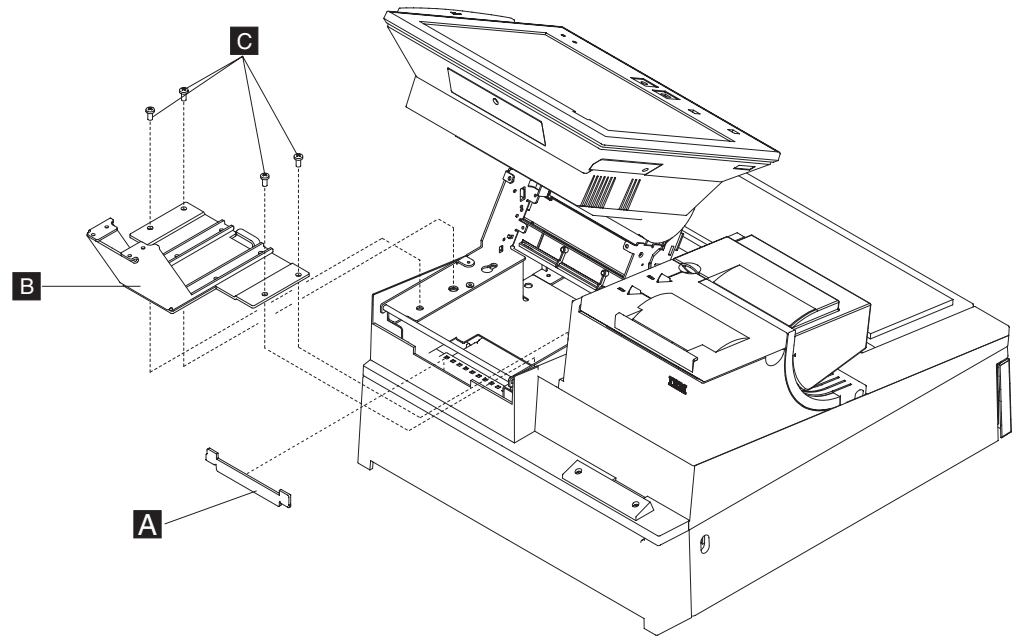

Figure 110. 4820 SurePoint Solution base plate removal from the keyboard integration tray
6. Remove the 4820 base plate **B** from the SurePOS 500/600 base plate by removing the four screws **C**, as shown in Figure 110.
Note: If you are permanently removing the 4820, you must install the small filler panel **A** located at the rear of the keyboard integration tray, as shown in Figure 110.